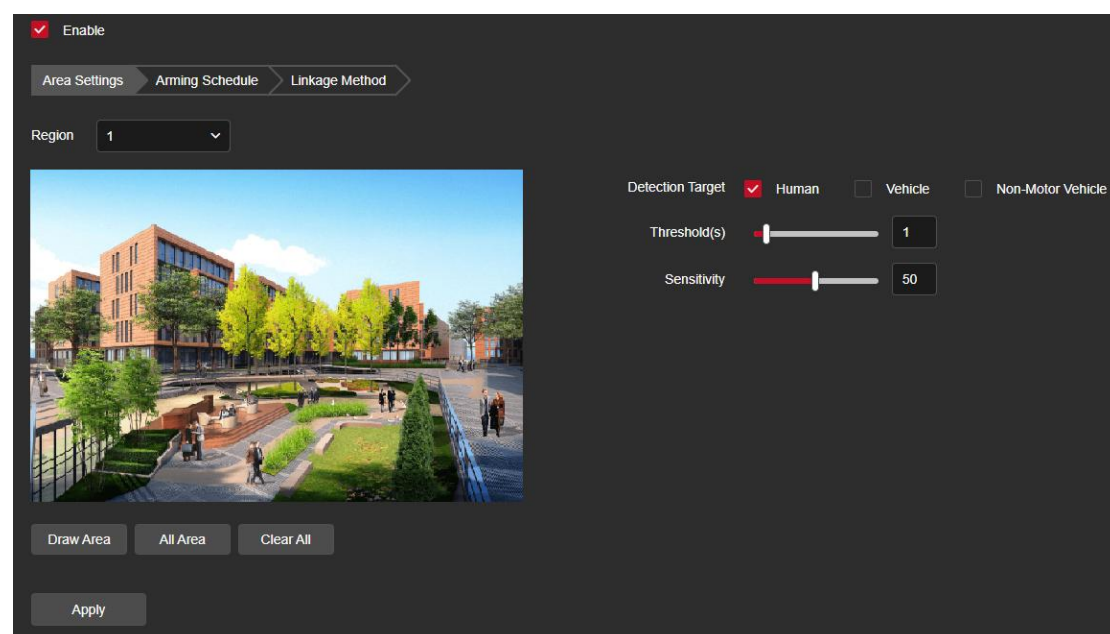

Figure 8-6-21
Step 1: In the main interface click on the "Configuration → Event → Smart Event → Intrusion" to enter the Intrusion Detection settings interface, as shown in Figure 8-6-21.